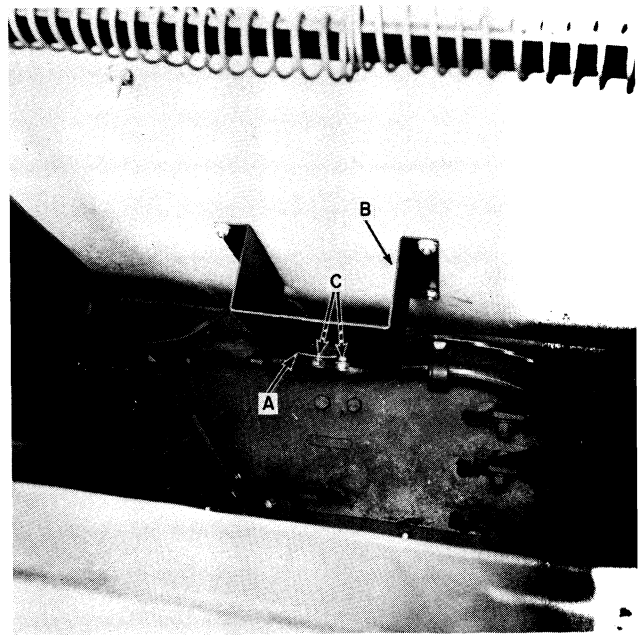
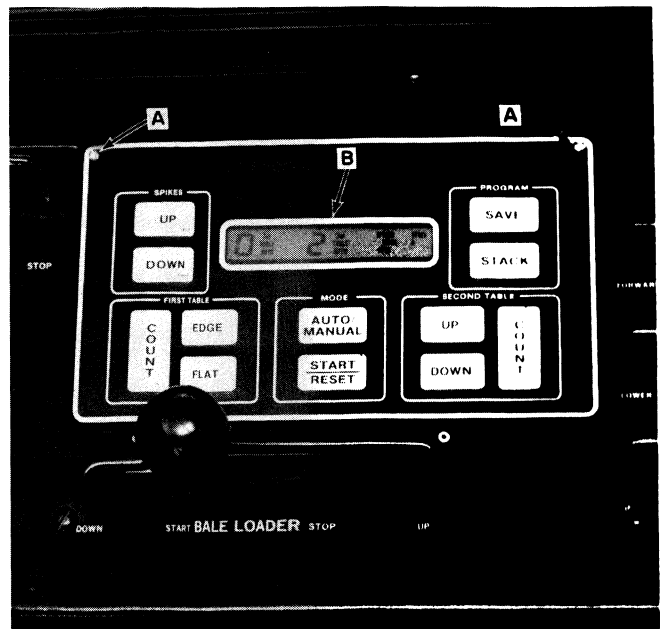

FIGURE 2-2
FIGURE 2-9
4. Fasten the spade bracket, A, Figure 2-2, to the mounting bracket, B, with two $1/4$ "
5. Fasten mounting bracket, B, Figure 2-2, as shown using four $1/4$ " $x 3/4$ " truss-head machine screws and flange nuts.
- Attach the new connector to the controller and install the controller in the console. The bottom lip of the controller should slip between the spade bracket, A, Figure 2-2, and mounting bracket, B. Retain the controller with two #6 x 1/2" self-tapping screws at A, Figure 2-9.
1. Turn the bale wagon key to the on position. A display, B, Figure 2-9, should appear. If there is no display, check the wiring from the fuse block for proper hookup.